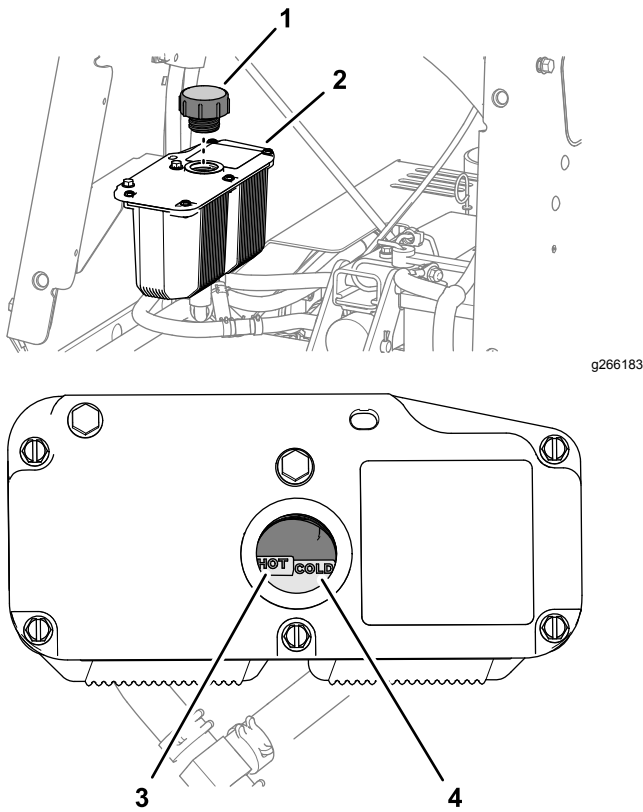

Figure 52
Note: The hydraulic-fluid level should cover the word FULL COLD that is embossed into the baffle of the reservoir (Figure 52).
5. If necessary, add the specified hydraulic fluid to the reservoir until the fluid covers the FULL COLD fluid level on the baffle (Figure 52).
6. Install the hydraulic reservoir cap (Figure 52) and tighten it until snug.